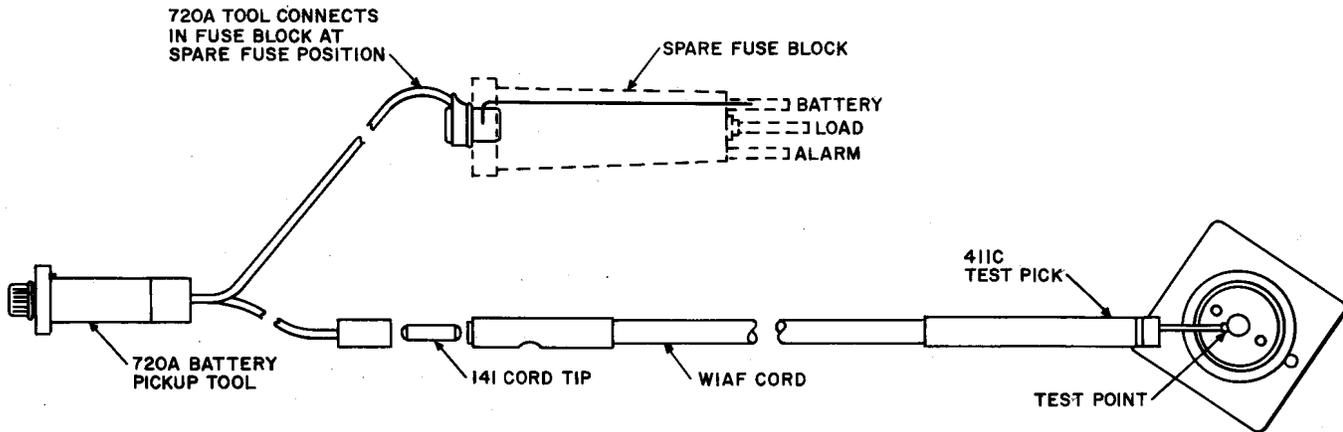

Fig. 2—Fuse Alarm Testing Cord—Tool Connection
- (1) Prepare the alarm test cord (refer to Fig. 2) by connecting one end of the W1AF testing cord to the 141 cord tip and 720A voltage pickup tool. (The KS-6278 connecting clip may be used to replace the 720A voltage pickup tool.) On the opposite end of the W1AF testing cord, connect the 411C test tool.
- (2) Install the 720A voltage pickup tool in a spare 70-type fuse position. (If the 720A tool is not available, obtain the same polarity 130-volt voltage supply by connecting a KS-6278